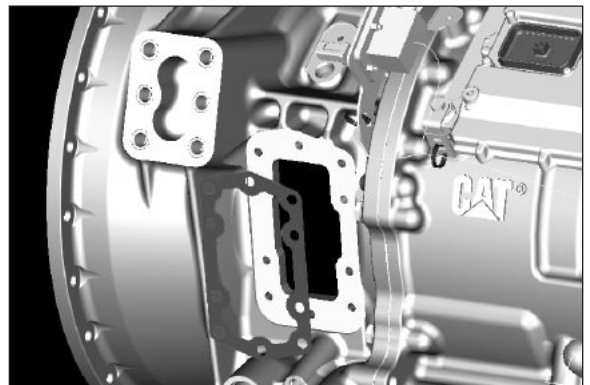

Fig. 2
2. Remove the gasket and clean the aperture surface (**Fig. 2**).